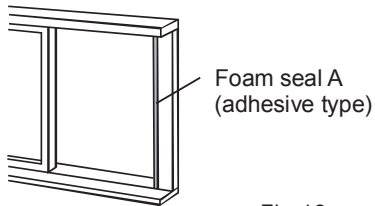

Fig. 12
1. Cut the foam seal A (adhesive type) to the proper length and attach it to the window frame. See Fig.12.